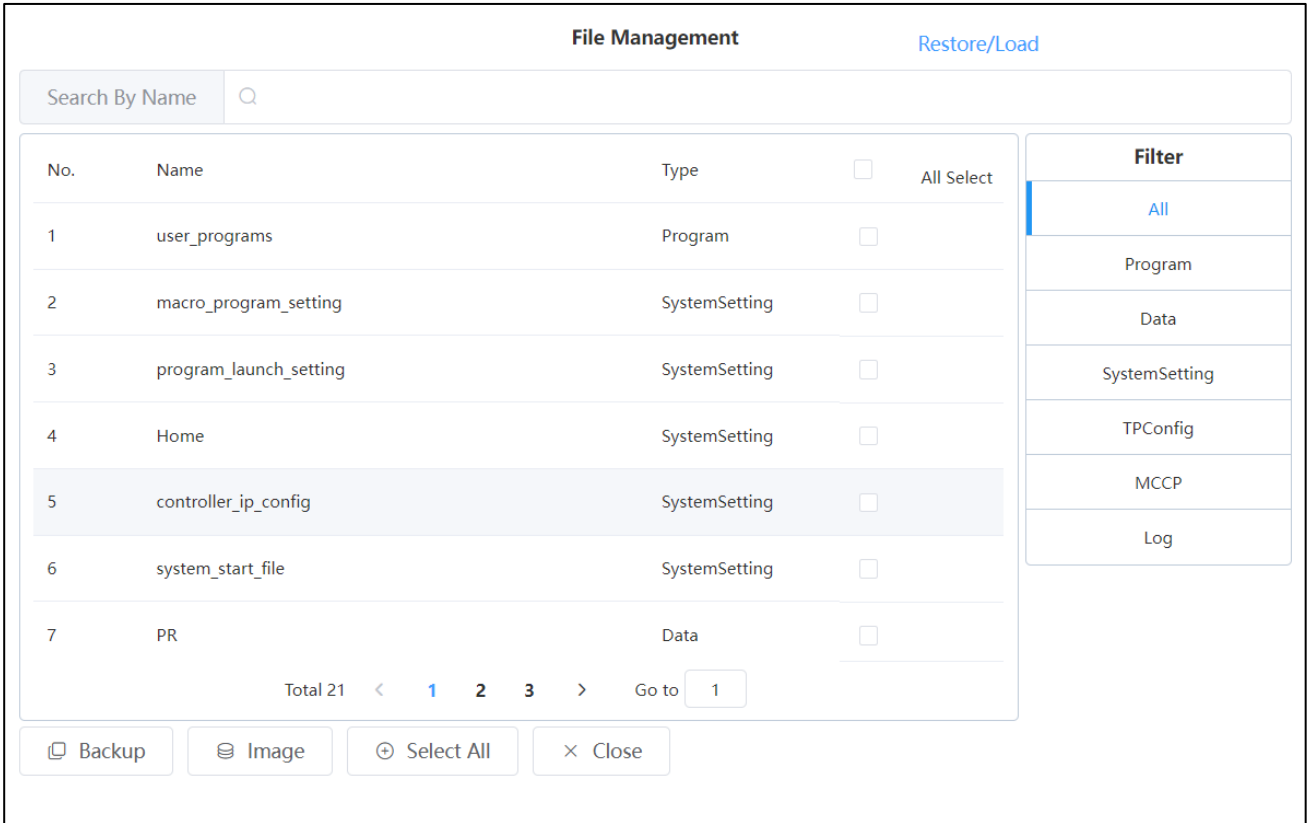

Fig. 7.1 File Management Interface
2. Switch the robot to the SERVO_OFF state. Click "Menu Button" → "Management" → "File Management" → "Backup" and open the file management interface, as shown in Fig. 7.1.